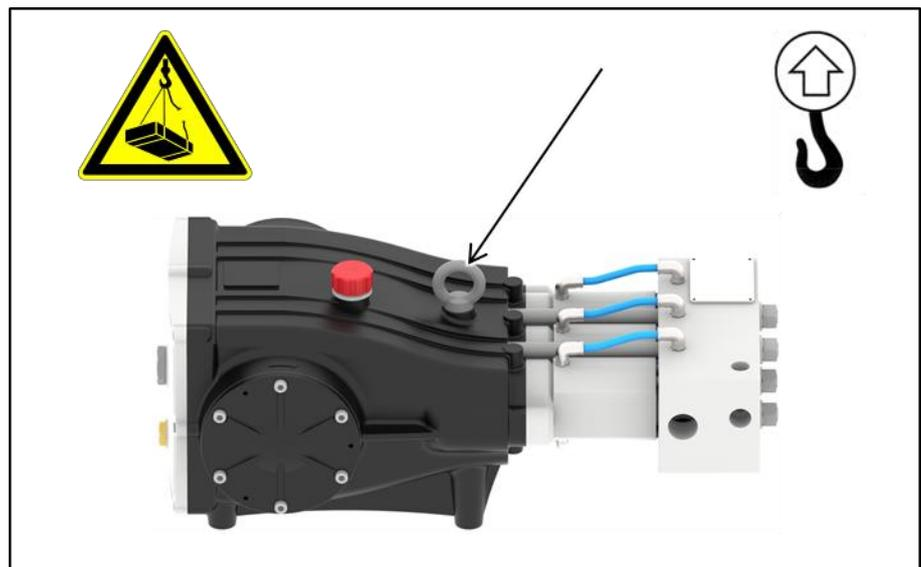

Figure 10: Lifting eye
- Only lift the pump at the lifting point intended for transport (Figure 10).